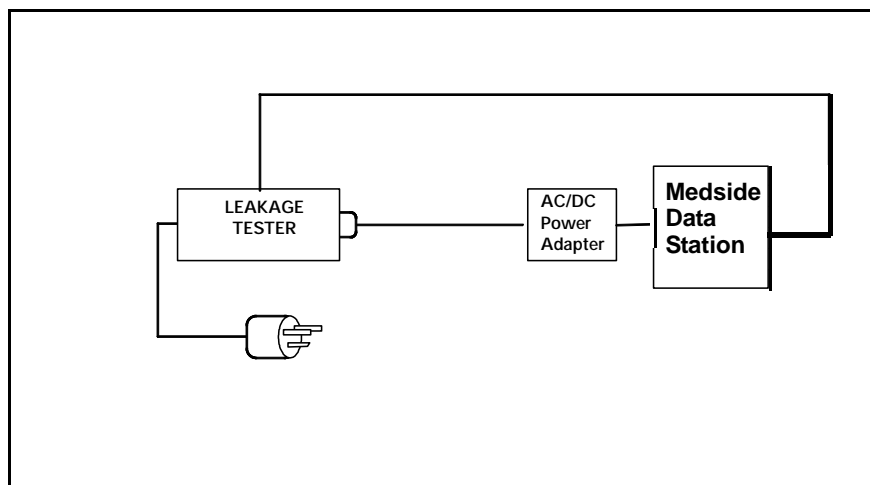

Figure 10-13 MDS Earth leakage current test setup
- 1) Perform leakage test with MDS power supply plugged into leakage tester. See Figure 10-13.